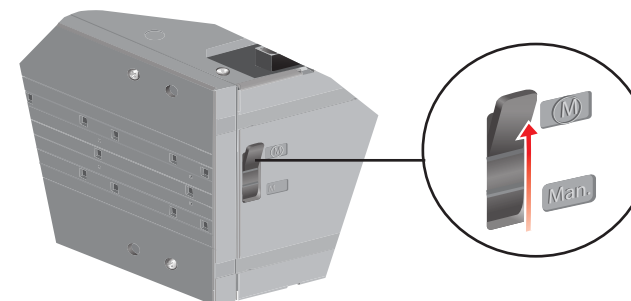

Figure 5-5 Motor/Manual selection switch in the Motor(M) position
2. Turn the Motor/Manual selection switch to the Motor(M) position, see Figure 5-5.